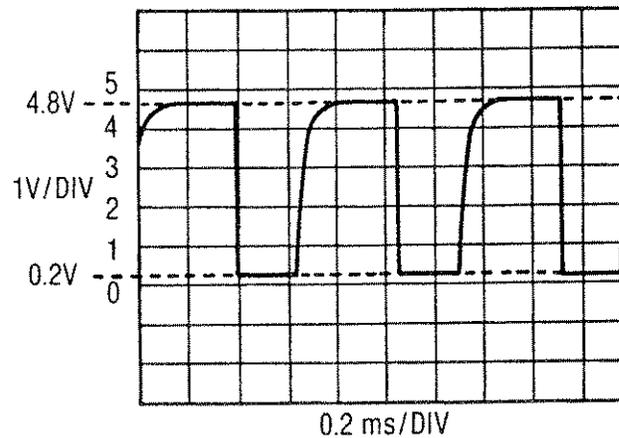

Figure 8-7. Display Enable Waveform
1. If all displays fail to light, check the +5V display enable CLK (clock) at A9TP1 with the oscilloscope. The waveform should be as shown in Figure 8-7.